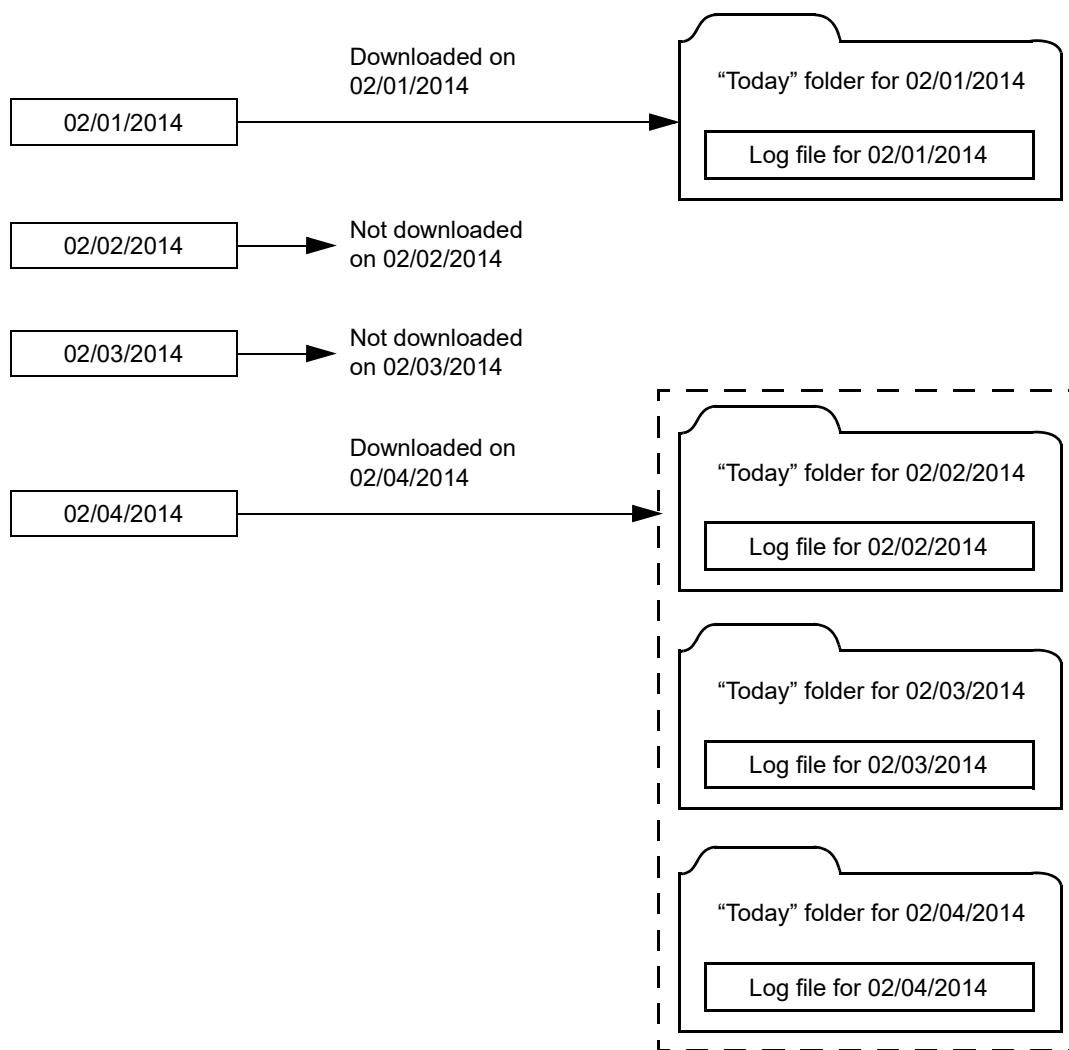

Figure 7.8
- When "Today" is selected as the scope of data for download, not only log data recorded on that day but also those on previous days are downloaded if stored in this equipment without being downloaded (see Figure 7.8). In this case, daily files are created in the folder.